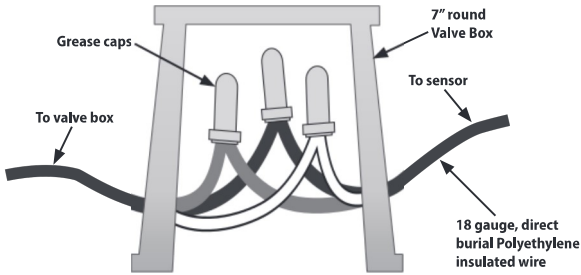

Figure 6
- For a weather proof connection (see Figure 6) please use: